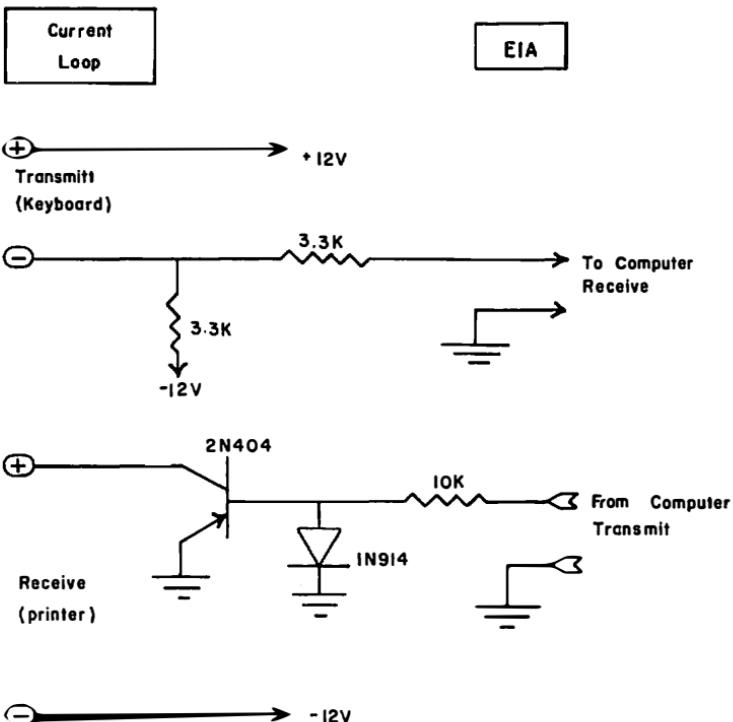

Fig. 9-3. Loop-to-EIA converter circuit.
distances (up to one mile) are required. To interface this standard to your 6801 system, you can convert the 20-mA loop devices to the RS-232C standard with a *loop-to-EIA* converter and use the RS-232C interface circuit previously discussed. A *loop-to-EIA* converter circuit is shown in Fig. 9-3.
3. loop-to-EIA converter (refer to Fig. 9-3)
4. MC1555 (555) timer